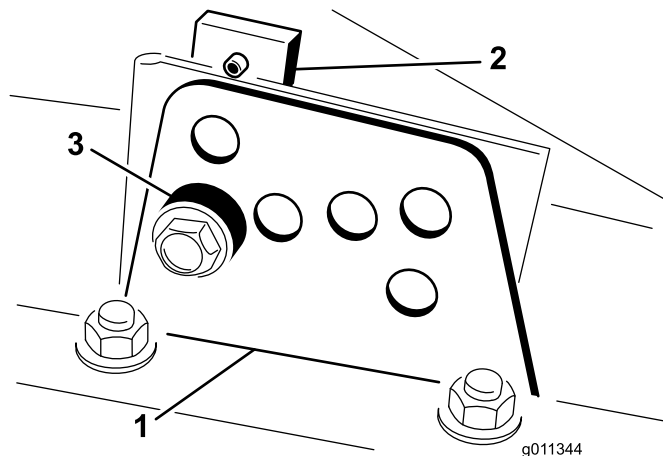

Figure 18
2. Loosen the bolt securing each height-of-cut bracket to the height-of-cut plate (front and each side) (Figure 18).